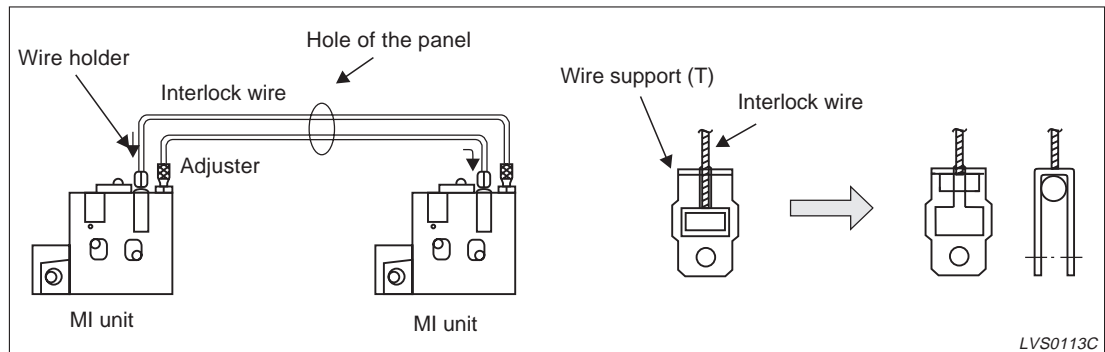

Fig. 4-49: MI unit mounting - changeover of 2 power supplies
- ③ When there is a partition between the breakers, put the wires through the partition hole. Then connect the interlock wires to the MI units.
- ④ Put the end of the interlock wire from the adjuster into the wire support (T) which is in the other MI unit (refer to fig. 4-49). Loosen the adjuster nut and turn the adjuster counterclockwise to securely attach the end of the interlock wire (refer to the following figure).